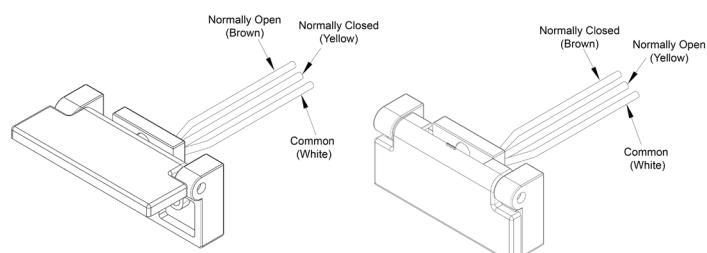

Figure 9.1 Form C Latch bolt connection (optional)
- Figure 9.1 shows optional Form C connection.